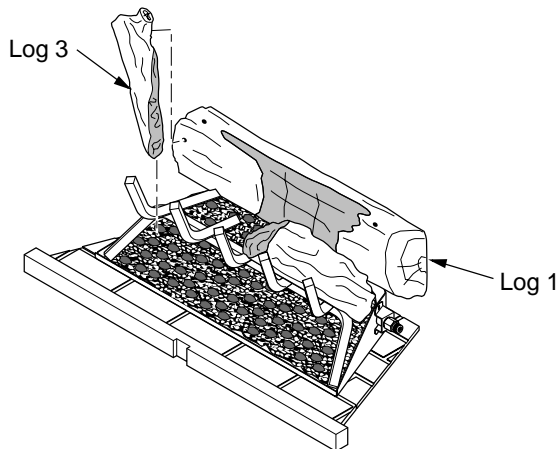

Figure 25 - Installing Log 3
3. Insert peg on back of log 3 into hole on left front of log 1 (see Figure 25). Log 3 will rest between first two grate fingers on left of grate assembly (see Figure 25)